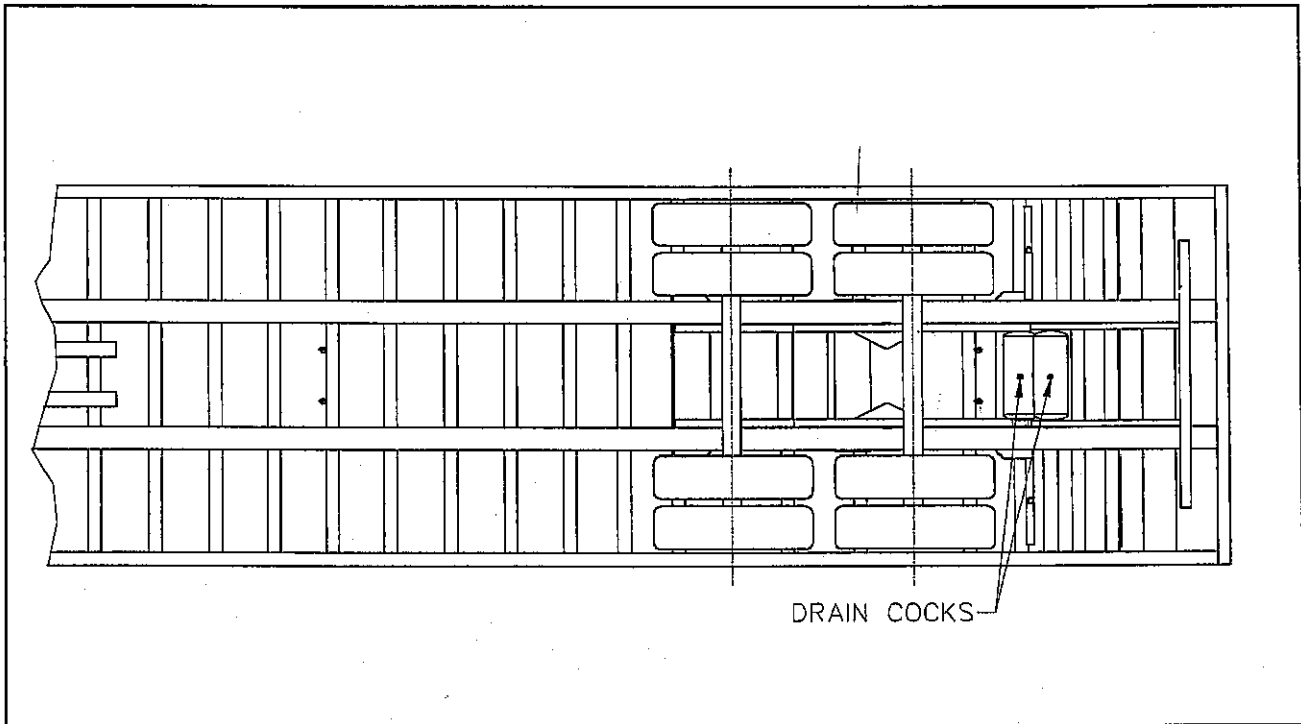

Fig. 4-1 Drain Cock Locations
- d. Drain air reservoir daily. A drain cock on the bottom of each air reservoir vents the tank to drain collected water and oil. If held open, air pressure in the tanks is relieved, causing the emergency or parking brakes to be applied (see Figure 4-1).
- b. Drain the semitrailer air system of all air and moisture (see Figure 4-1).